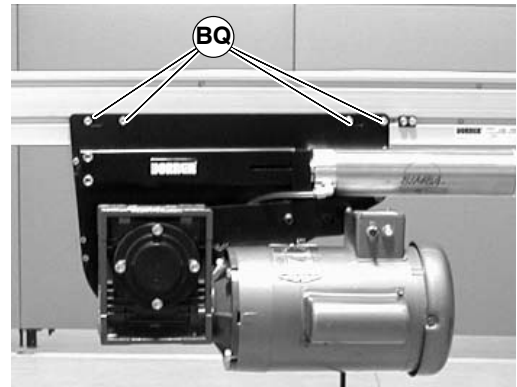

Figure 42
2. If necessary, adjust the tracking cam: loosen the center drive fastening screws (BQ of Figure 42) on the side of center drive to be tracked.
4. Tighten the center drive fastening screws (BQ of Figure 42) to 146 in-lbs (16.5 N-m).